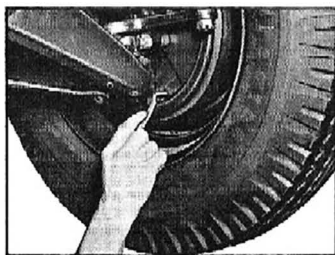

Fig. 33—Duo Servo Brake Adjustment
4. Expand brake shoes by turning adjusting screw with suitable tool until a light drag is felt on the brake drum. Refer to Figure 33.